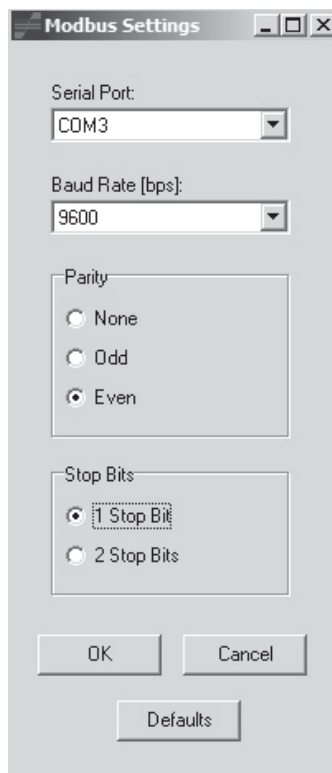

Fig. B.2: Transmission parameters
- Check the transmission parameters (see Fig. B.2). They have to be identical with the transmission parameters set in the transmitter (see section 2.3).